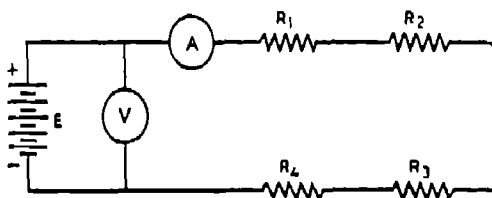

Fig. 11.3 Measurement of Series Resistance
- (ii) Connect the circuit as shown in Fig 11.3 with an ammeter in series. Record the battery voltage and voltage drop across each resistor using the same voltmeter. Record the ammeter reading.